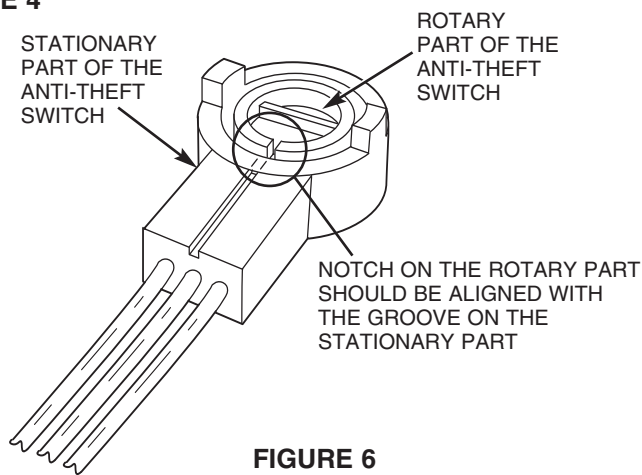

FIGURE 6
9. With the key in the lock cylinder sub-assembly (D), apply the included grease (E) to the tumbler slots.
10. With the key in the lock cylinder (D), insert the lock cylinder into the appropriate lock case (F).
11. Rotate the lock cylinder (D) within the lock case (F) at least ten (10) times so that the grease applied to the tumbler slots is distributed along the inner surface of the lock case (F) and the exterior surface of the lock cylinder (D).
12. Position the key in a vertical orientation and remove the key from the lock cylinder sub-assembly (D) while keeping the lock cylinder sub-assembly (D) within the lock case (F).
13. Place the shutter cover (H) over the lock case (F) and the lock cylinder (D). Use a pair of small pliers to gently bend the four (4) tabs on the shutter cover (H) inward toward the center of the lock case (F) to secure the lock cylinder (D) within the lock case (F).
14. Assemble the anti-theft (if so equipped) and then the lock lever in the orientations and directions recorded in steps A and B above. When assembling the anti-theft switch to the lock, **do not** rotate the rotary part of the anti-theft switch with respect to the stationary part of the anti-theft switch or vice versa (refer to Figure 6).
15. Install the E-clip (G) to the back of the lock cylinder (D) assembly to secure the lever and switch (if so equipped).